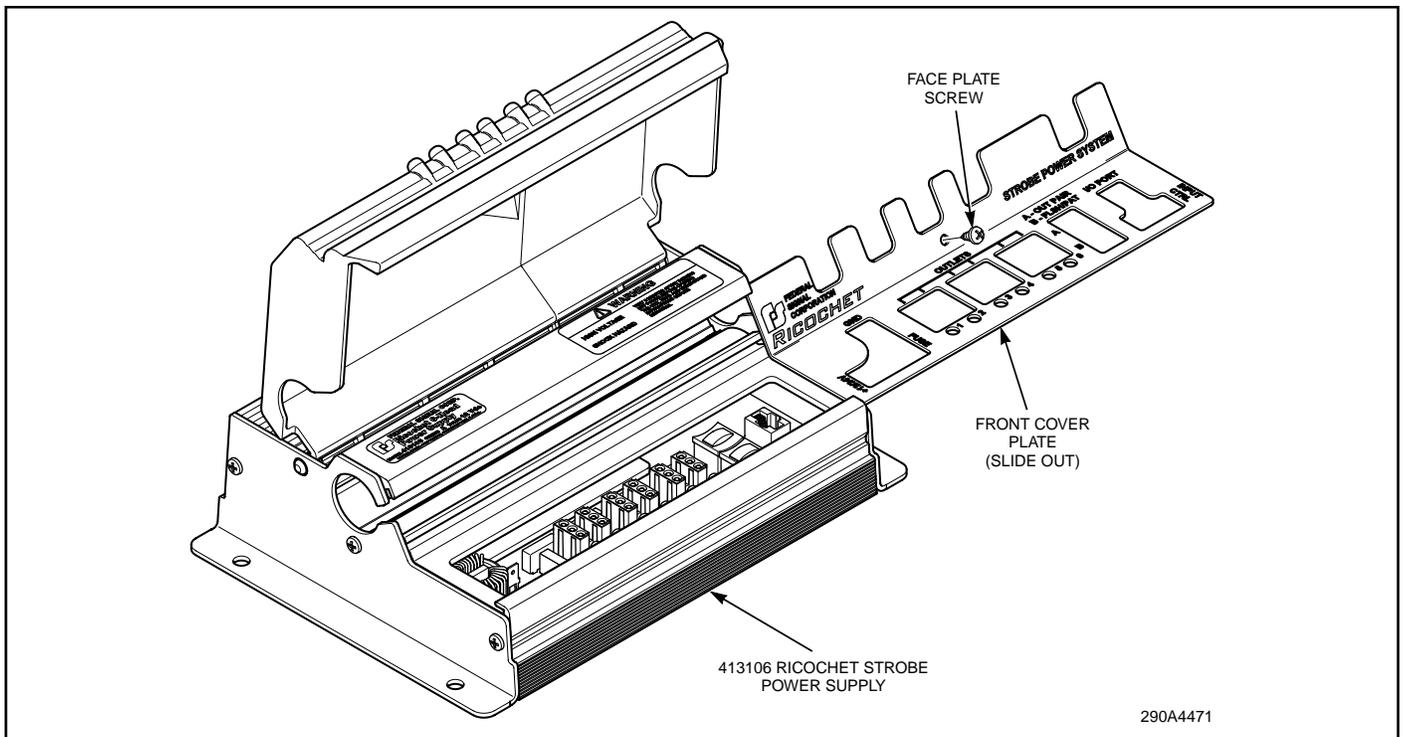

Figure 3.
10. Unplug all connections. Remove retaining screw for front cover plate and cable comb. See figure 3. Slide cover plate out, towards the end that the cables enter the cable tray. If cables enter from both ends, slide towards the end that has the least amount of cables entering the cable tray.